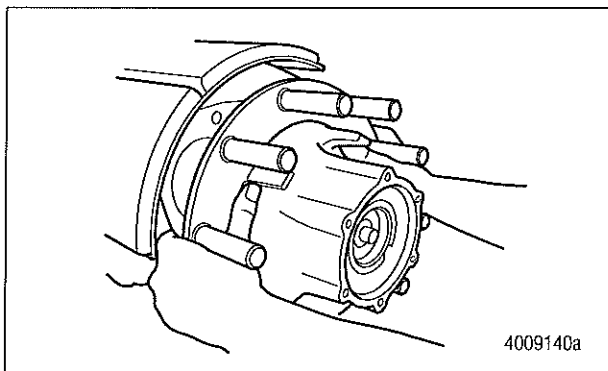

Figure 8
11. Pull the hub as straight as possible off the spindle to avoid damaging the axle spindle. Figure 8.